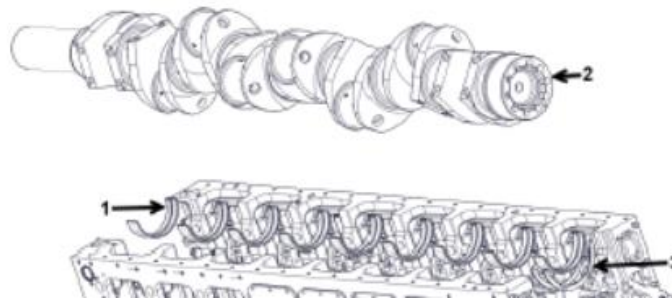

Figure 110.
3. Reinstall new main bearing (Figure 110, Item 1) and thrust plate (Figure 110, Item 3) in the cylinder block and main bearing caps.
5. With proper hoisting assistance place the crankshaft (Figure 110, Item 2) into the engine.